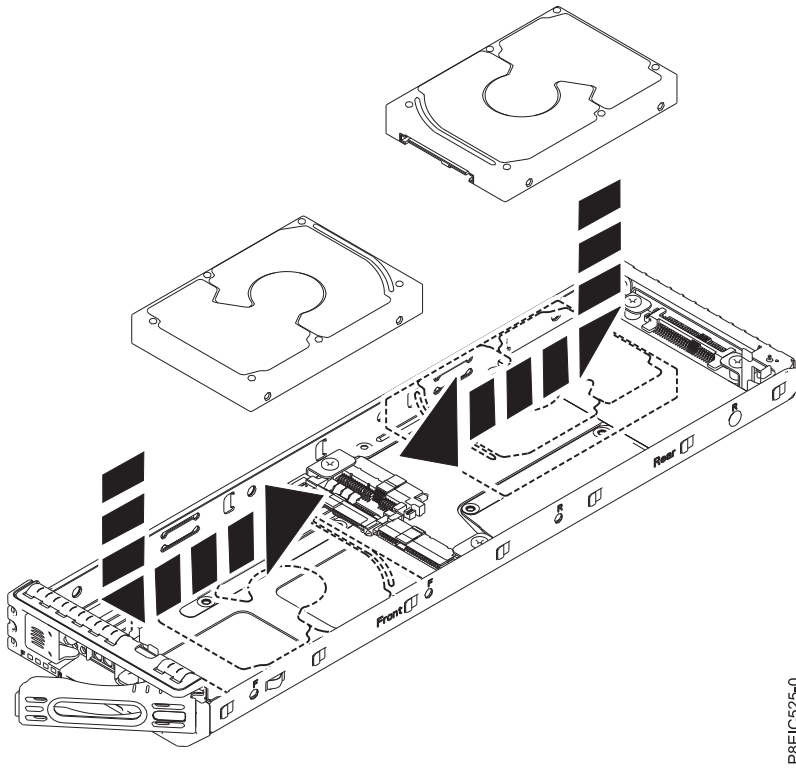

Figure 16. Installing the 2.5 inch drive into the tray
- a. Place the drive in the tray, then slide the drive into the socket, as shown in Figure 16.